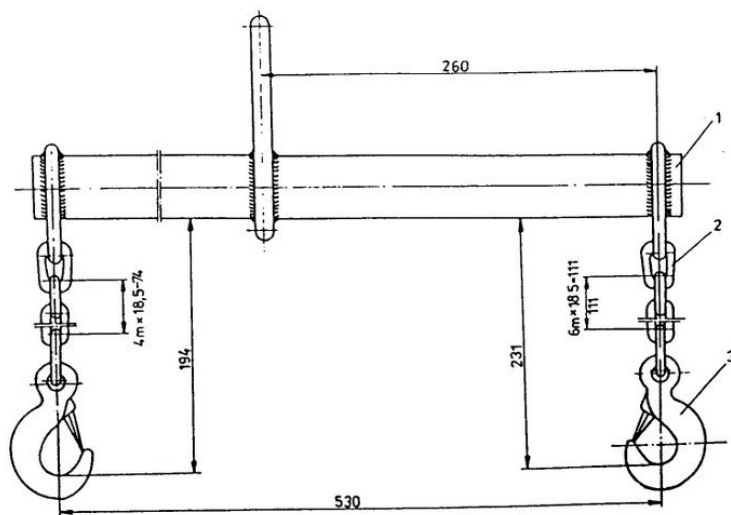

Fig. 11. Device for lifting an engine
- Unscrew nuts fixing cylinder head (engines produced up to the middle of an April 1997) or bolts (engines produced since the middle of an April 1997) in the opposite sequence as shown in Fig. 10. Remove the cylinder head using special device (Fig. 11). Remove a gasket and clean upper inner surfaces of cylinder liners (to remove a carbon deposit), it will make easy to remove the pistons.